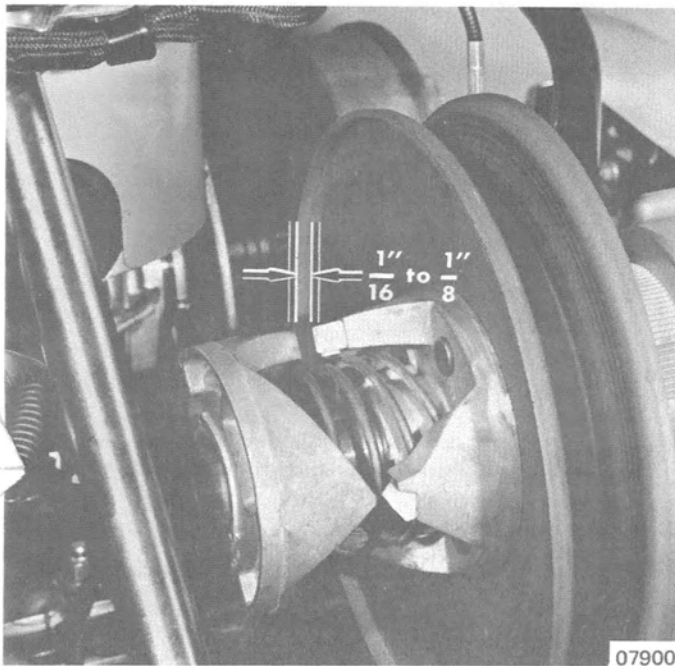

Figure 4. Installing Torque Bracket
6. Compress spring until 1/16" to 1/8" (1.6mm to 3.2mm) clearance is obtained between ramps. (Figure 4)